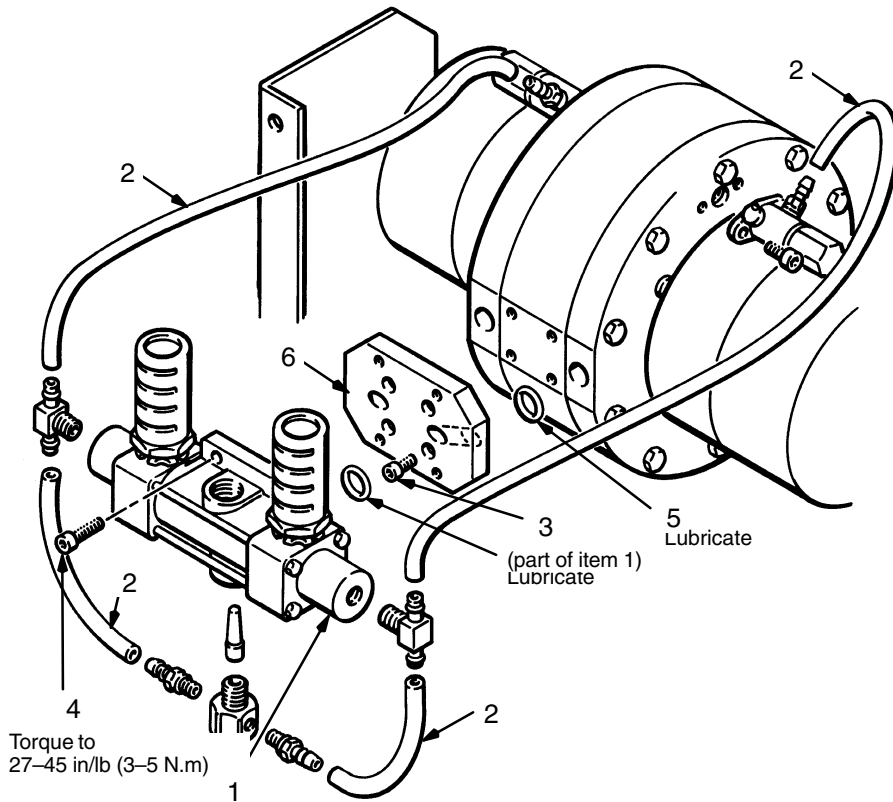

Fig. 1
2. Assemble kit as shown in Fig. 1.
3. Remove mufflers and lock rings from old air valve and install them on new air valve. Fig. 1.
8. Replace the two o-rings (108*) in the center housing (101).
9. Install the air valve on the pump and connect the tubing as shown in Fig. 1.